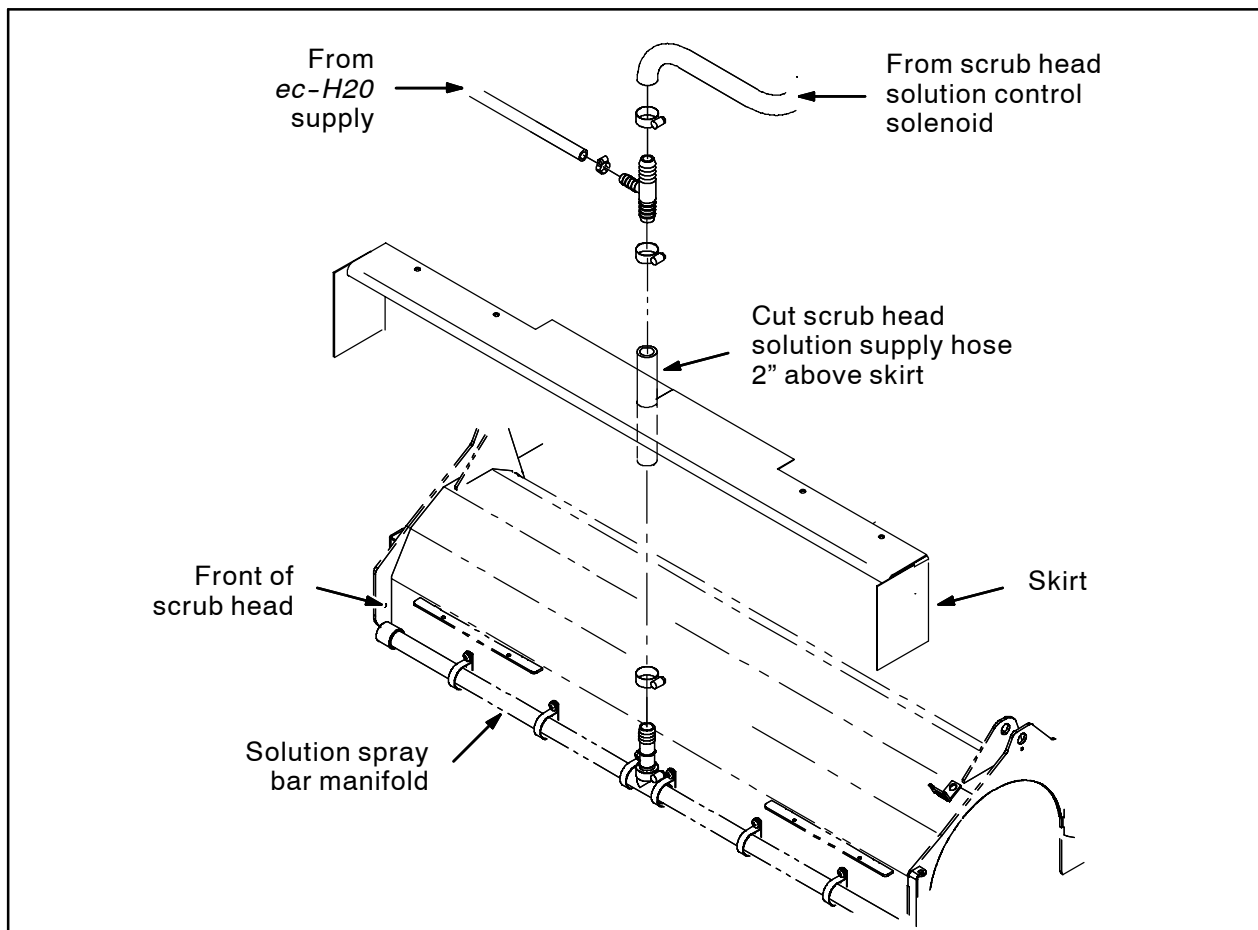

FIG. 12
40. Cut the solution supply hose to the scrub head approximately 2" from the top of the skirt. Refer to Fig. 12.
41. Use a hose clamp to connect the t-fitting to the hose from the solution spray bar manifold. Refer to Fig. 12.
42. Use a hose clamp to connect the hose from the scrub head solution solenoid to the t-fitting. Refer to Fig. 12.
43. Use a hose clamp to connect the hose from the y-fitting to the t-fitting. Refer to Fig. 12.
44. Use a cable tie to secure the hose assembly from the previous step to the center beam of the frame of the machine. Refer to Fig. 12.
45. Reinstall the skirt assembly onto the front of the scrub head. Refer to Fig. 12.